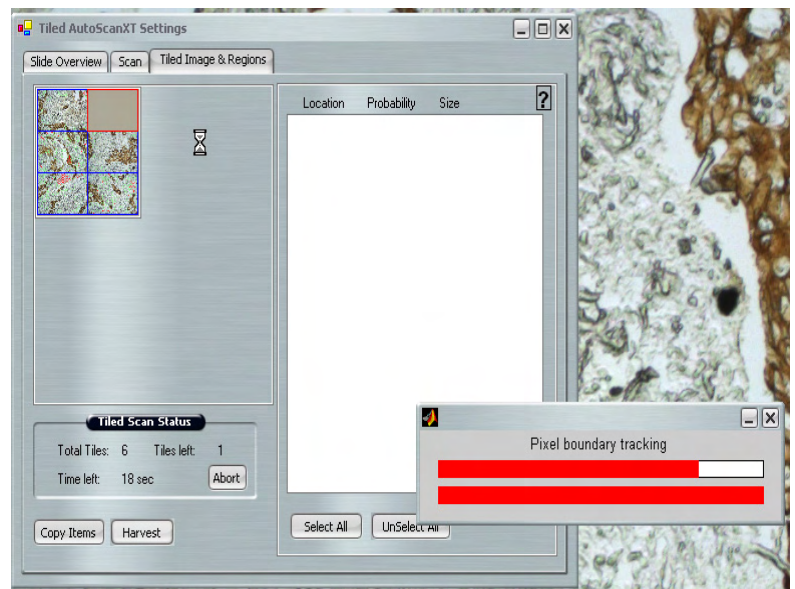

Figure 14. Analysis in Progress
7. The “Tiled Image and Regions” tab will appear as AutoScanXT software begins analysis of the region (Figure 14). On the left side of the window will appear the grid of the tiles being scanned, and below that is listed the approximate time remaining for analysis. As the analysis of each tile is complete, the image of the tile will appear in the grid and the regions list will be populated for that tile.